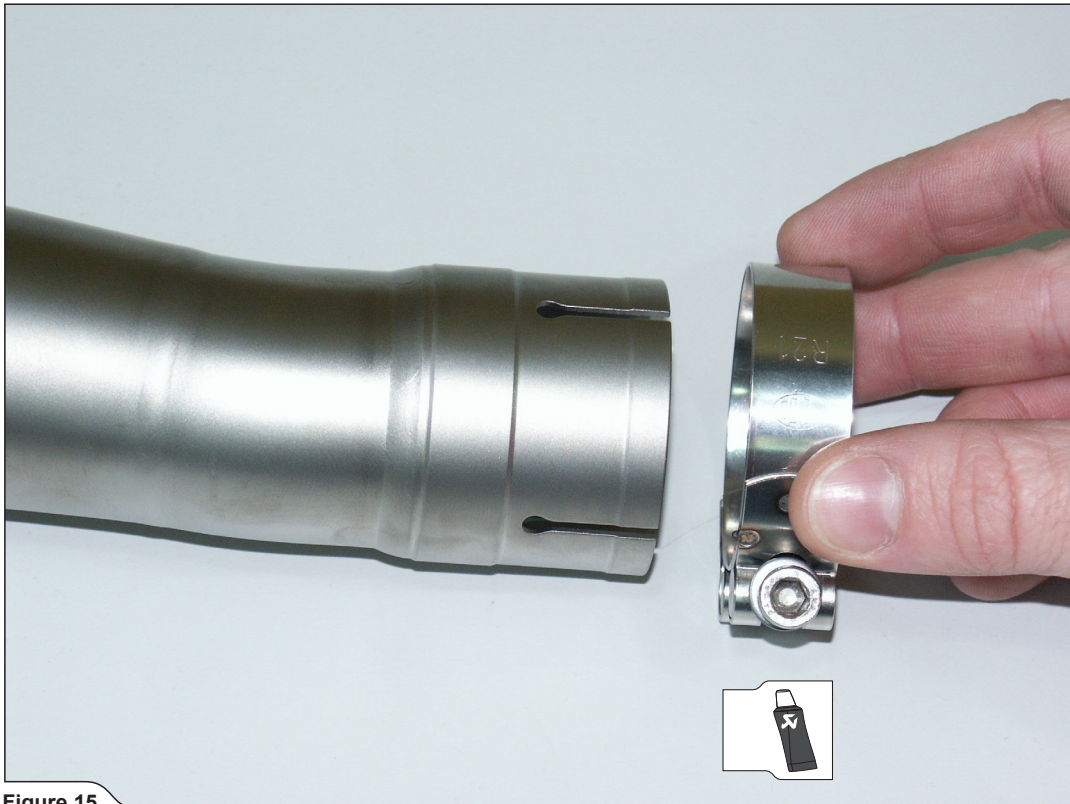

Figure 15
1. Correctly install the clamp onto the inlet bush as shown (Figure 15).